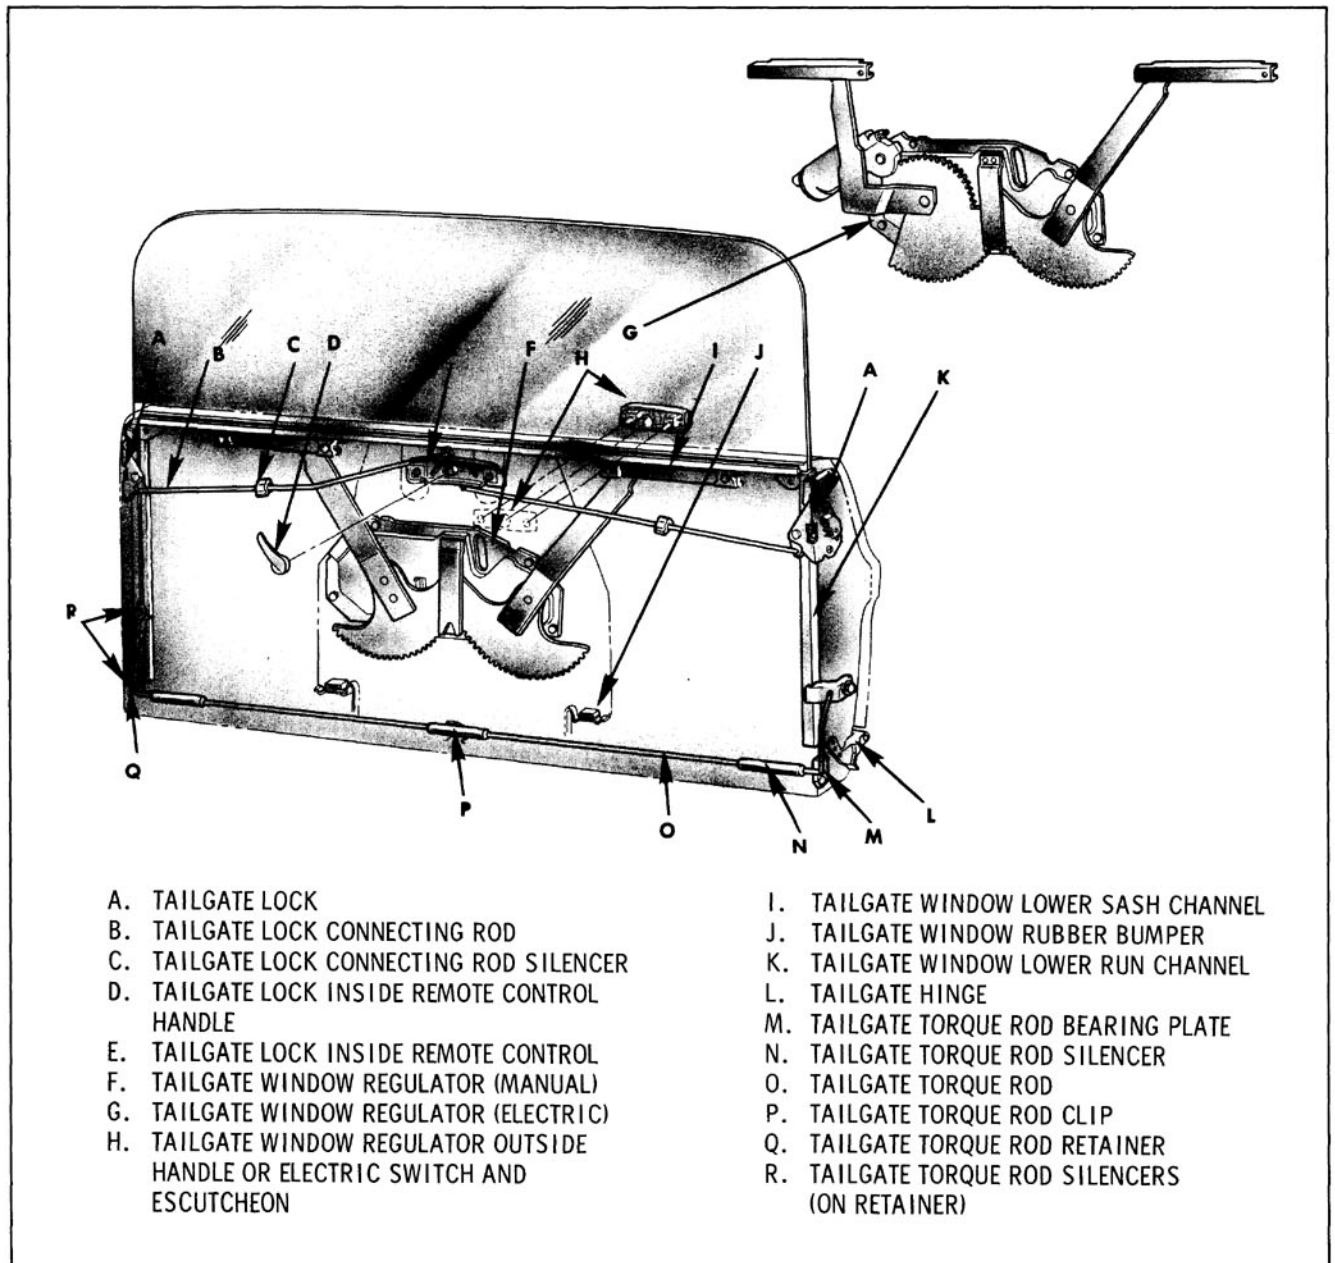
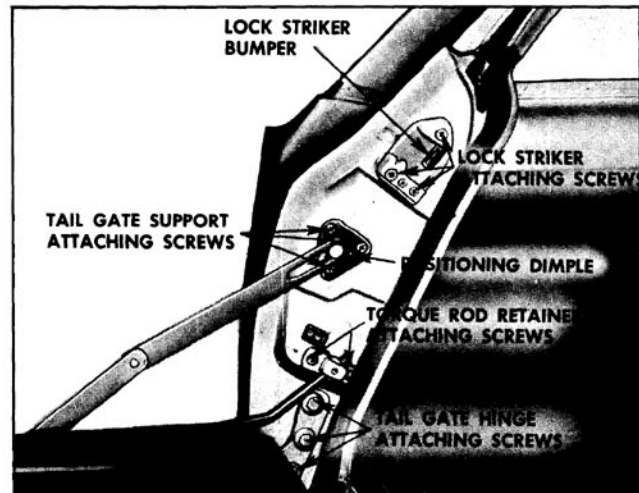
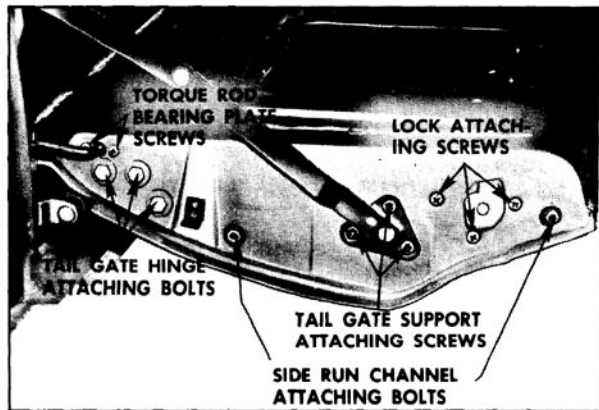

Fig. 16-472 Tailgate Hardware
Fig. 16-474 Tailgate Mechanism
Fig. 16-475 Tailgate Attachment
counterbalanced by a single torque rod that is secured at the left rear body opening pillar by a mounting plate and between the tailgate panels by a retainer welded to the tailgate right side facing. When the tailgate is opened, the end of the torque rod secured to the body remains stationary while the remainder of the rod moves with the gate, thereby creating an assisting torque for both lowering and raising the gate. (Fig. 16-472)
1. Open tailgate. With gate in approximately a vertical position, to relieve tension from torque rod, remove torque rod retainer attaching screws on rear body lock pillar. (Fig. 16-474)
2. With aid of a helper, remove tailgate support attaching screws (Fig. 16-475) and fold supports against rear body pillar.
3. Remove tailgate hinge attaching bolts at body pillar (Fig. 16-474) and remove tailgate assembly from body.
To adjust the tailgate assembly up or down or in or out in the body opening, loosen hinge attaching bolts at tailgate (Fig. 16-475); adjust tailgate as required and tighten hinge attaching bolts.
3. Remove tailgate hinge attaching bolts from tailgate (Fig. 16-475) and from body pillar (Fig. 16-474) and remove hinge from tailgate.
2. With tailgate in approximately a vertical position, to relieve tension from torque rod, remove torque rod retainer attaching screws on rear body left lock pillar (Fig. 16-474).
3. Loosen torque rod bearing plate attaching screws (Fig. 16-475). Disengage torque rod from retainer at right side of tailgate and retainer in bottom of tailgate (Fig. 16-472).
5. To install tailgate torque rod, reverse removal procedure. Prior to installing torque rod, lubricate frictional surfaces of torque rod and bearing plate with Lubriplate or its equivalent. Check that torque rod nylon silencers are properly positioned on retainer. After installation of torque rod, install rubber silencers on rod. (Fig. 16-472)
2. Remove tailgate support plate attaching screws from both tailgate and rear body pillar (Fig. 16-475) and (Fig. 16-474) and remove tailgate supports.
To adjust the tailgate window forward or rearward for proper alignment with the window upper glass run channels on the body, or to eliminate a binding condition of the window in the tailgate glass run side channels, loosen the glass run channel attaching bolts (Fig. 16-475). By moving the attaching bolts, adjust the run channel forward or rearward as desired and tighten the attaching bolt.
2. Mark location of side run channel attaching screws (Fig. 16-475) to facilitate installation in same position; then remove attaching screws.